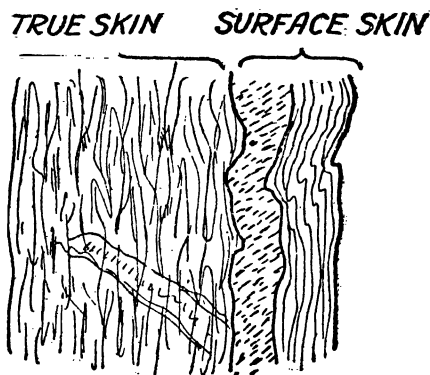

FIG. 48. CROSS SECTION OF SKIN
A skin, or hide, as shown in Fig. 48, consists of two layers and these are (1) the *upper*, or *surface layer* which is the *cuticle*, and (2) the *under layer*, or